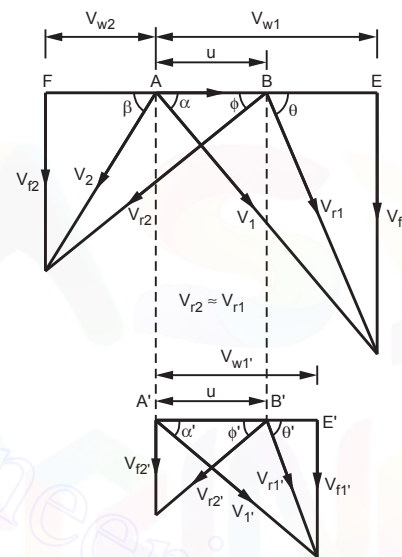

Fig. 3.28 : Velocity triangles for multistage impulse turbine
- Fig. 3.28 shows the velocity triangles for the first and second row of moving blades of velocity compounded arrangement.
From Fig. 3.28,  $BE = V_{r1} \cos \theta$  and  $BF = V_{r2} \cos \phi$